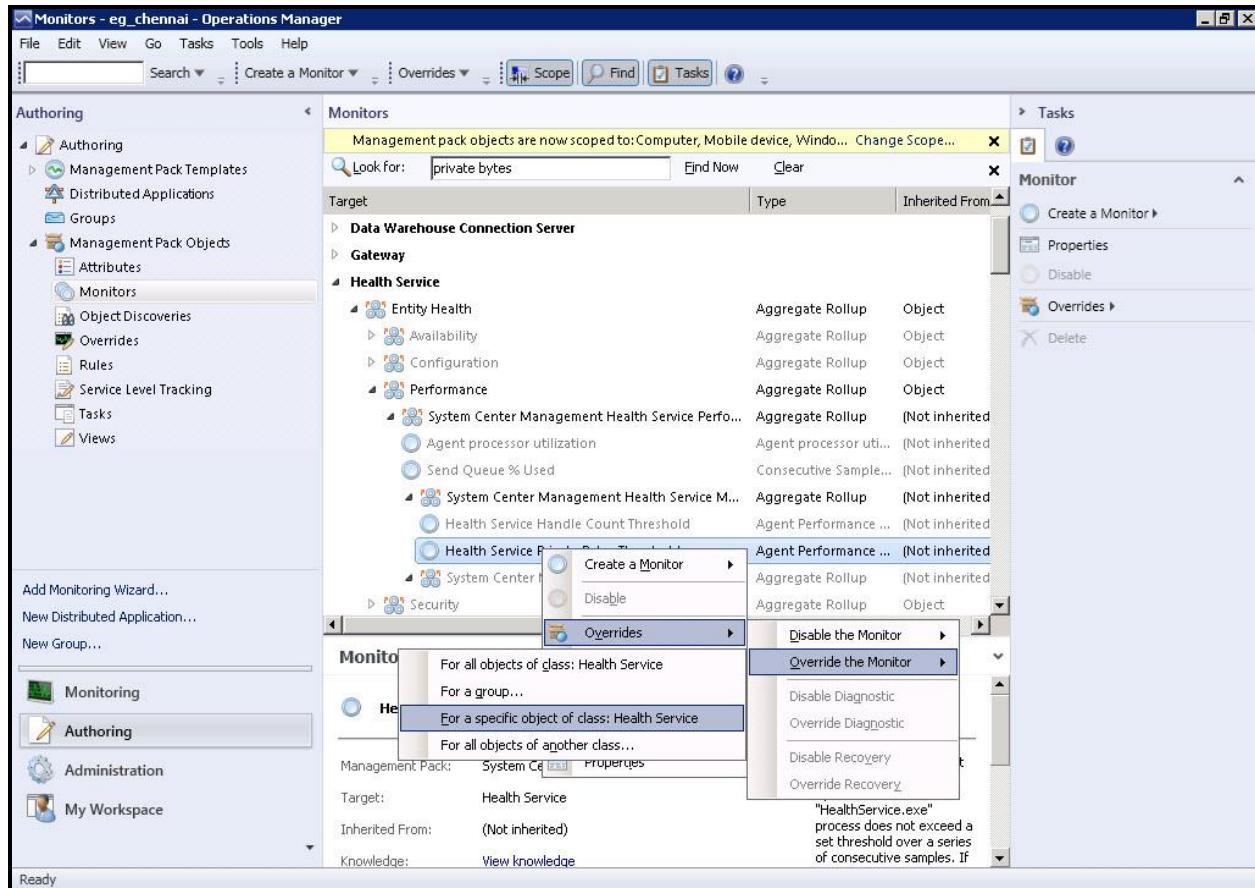

Figure 2.16: Overriding the 'Health Service Private Bytes Threshold' monitor
3. First, scroll down the list of monitors to look for the target, **Health Service**. Under the **Performance** category of that target, look for the monitor named, **Health Service Private Bytes Threshold**. Then, right-click on that monitor and follow the menu sequence, *Overrides* -> *Override the Monitor* -> *For a specific object of class: Health Service* (see Figure 2.16).
6. You will then return to the **Monitors** view of Figure 2.16. Now, from the **Performance** category of the **Health Service** target, right-click on the monitor named **Health Service Handle Count Threshold**, and follow the menu sequence: *Overrides -> Override the Monitor -> For a specific object of class: Health Service*